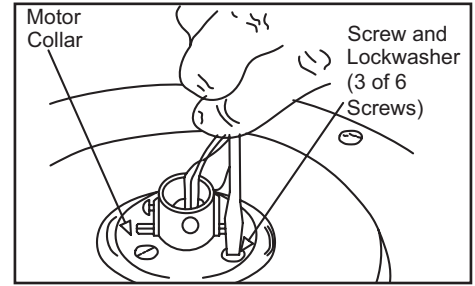

Figure 9
4. Remove three of the six screws and lock washers (every other one) securing the motor collar to the top of the fan motor housing (Figure 9).